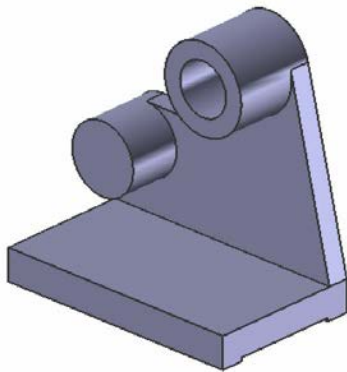

Figure 6-88 Model after creating a hole in the third feature
- Create two holes on the side face of the model using the **Hole** tool, refer to Figures 6-88 and 6-89.
6. Accept the other default settings and choose the **OK** button from the dialog box; a hole is created in the third feature, as shown in Figure 6-88.